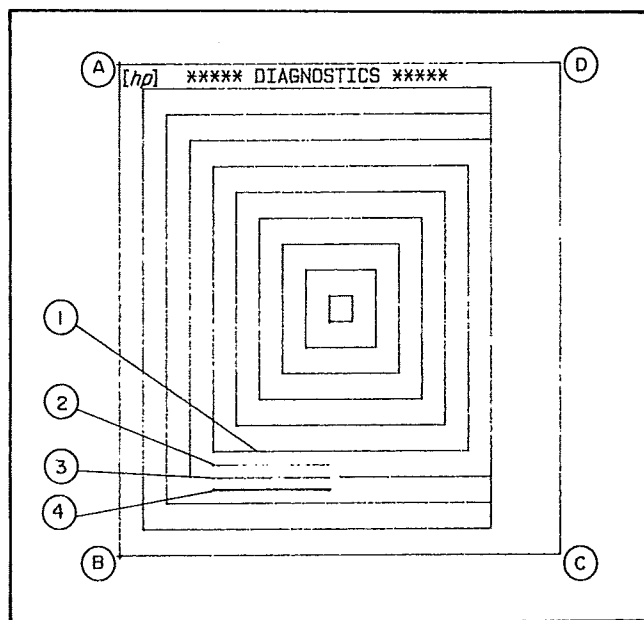

Figure 4-1. Test Pattern for GDU.
2. Display the test pattern for the GDU as shown in Figure 4-1 by pressing the **G.D. TEST** softkey.